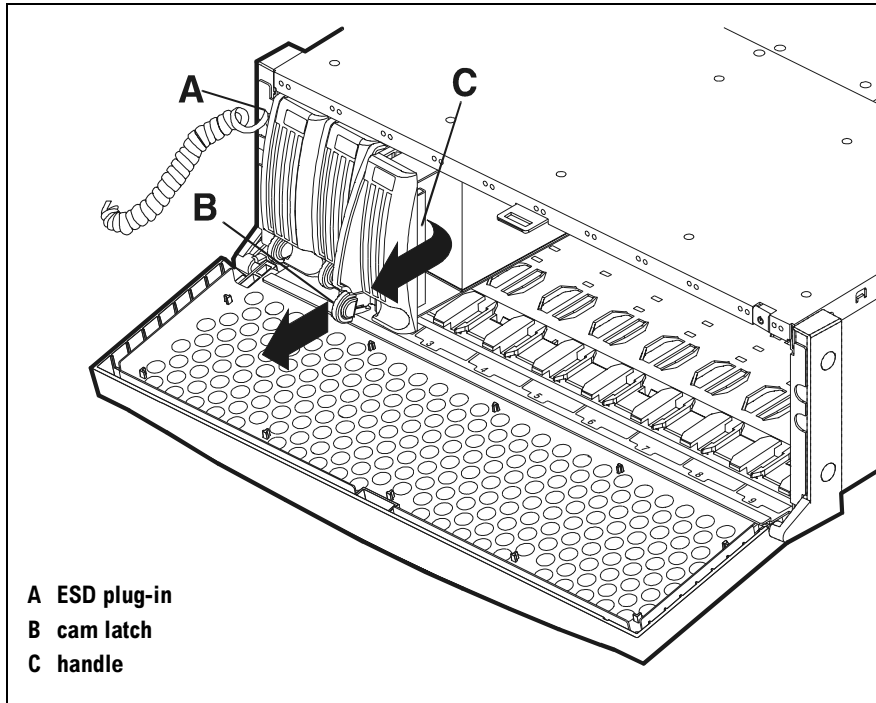

Figure 42 Disk Removal
2. Insert the plug of your static wrist strap into the disk system ESD socket (A in Figure 42).